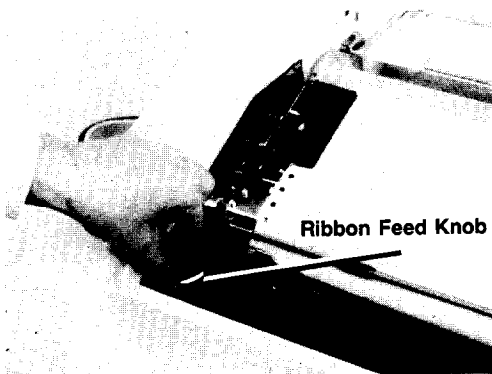

Fig. 3
4. Tighten the ribbon by twisting the ribbon feed knob in the direction of the arrow (Fig. 3). Make sure that the ribbon is properly positioned in the guide as shown below.